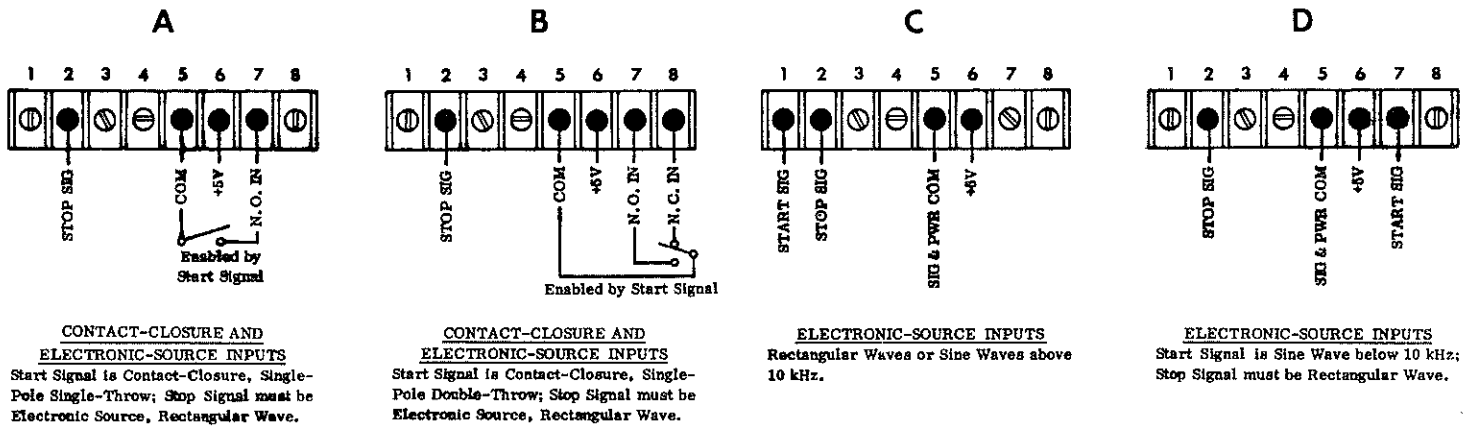

Figure 11. Input Connections for Time Interval Measurement
2. Reassemble instrument and connect inputs to terminal block as shown in figure 11"A".
2. Reassemble instrument and connect inputs to terminal block as shown in figure 11"B".
2. Reassemble instrument and connect inputs to terminal block as shown in figure 11"C".
2. Reassemble instrument and connect inputs to terminal block as shown in figure 11"D".